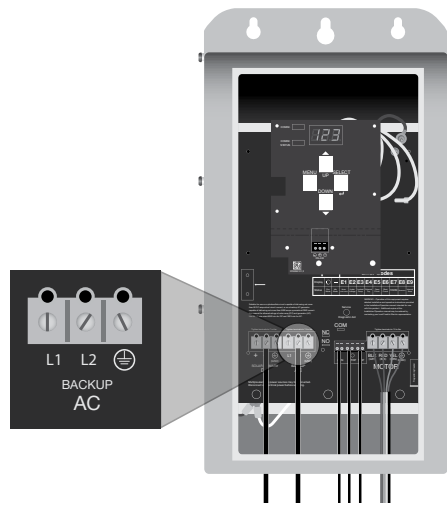

Figure 6. AC Wiring Connection
3. Connect the cables from the generator to the Terminal Block labeled "Backup AC" to terminals L1, L2, and GND. (Figure 6) (Torque specification: 15 in-lbs/ 1.7 N-m).